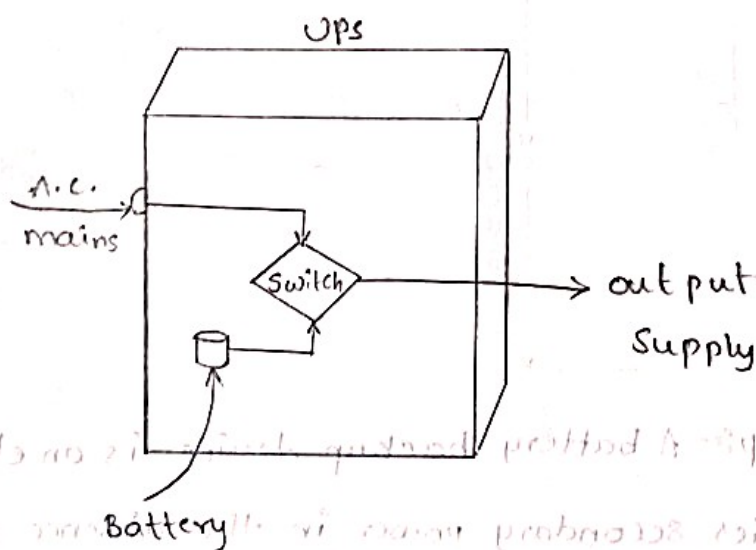

Fig. Q.26.1 Basic Concept of Ups.
* The fig. Q.26.1 shows a very basic block diagram of an ups which is using two power sources, controlled by a switch.